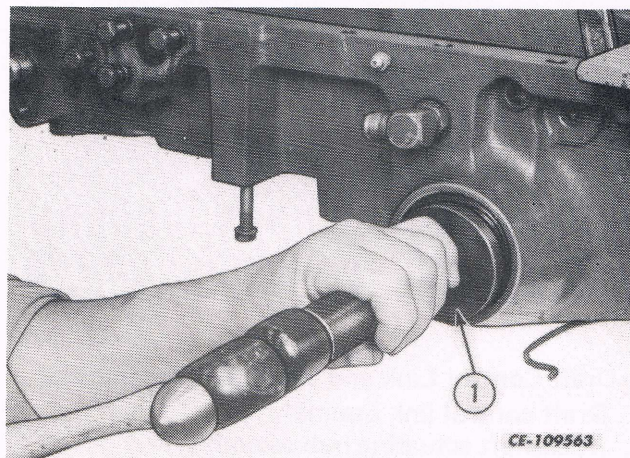

Fig. 31
p. When installing the bushing and oil seal, use a drive having a 32 mm (2-1/4 inch) pilot and a 76 mm (3 inch) driver (1, Fig. 31). Position the seam in the bushing as shown in the above illustration.